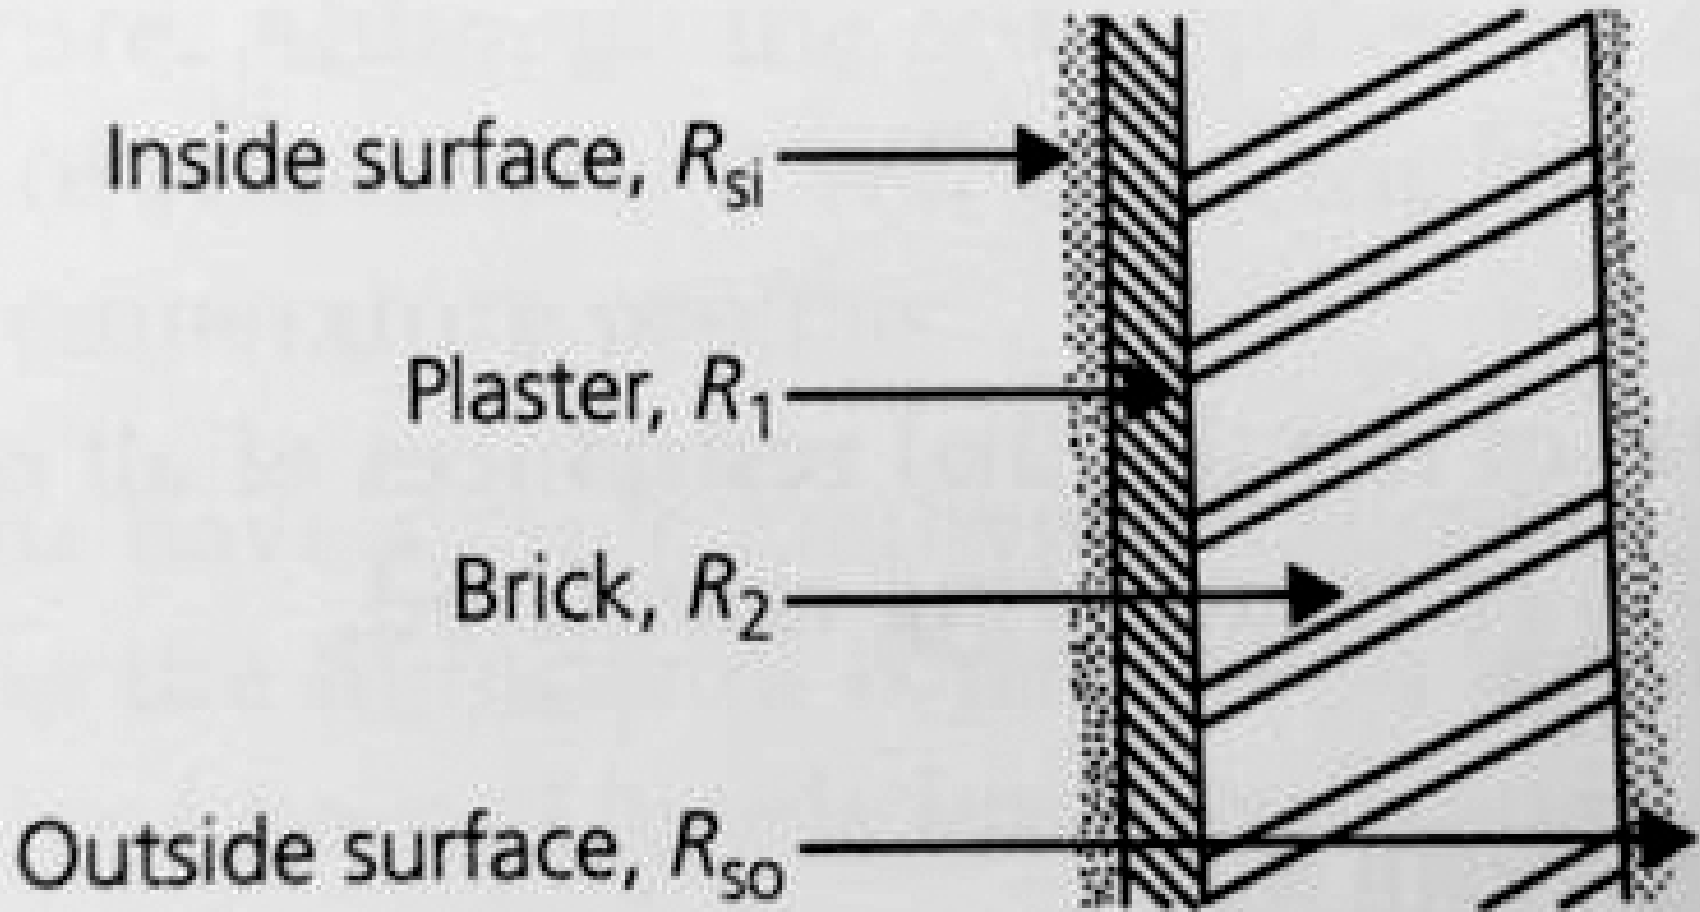

figure 3.3
- Thus the total thermal resistance is the sum of the thermal resistances of all the components in a structural element. As figure 3.3